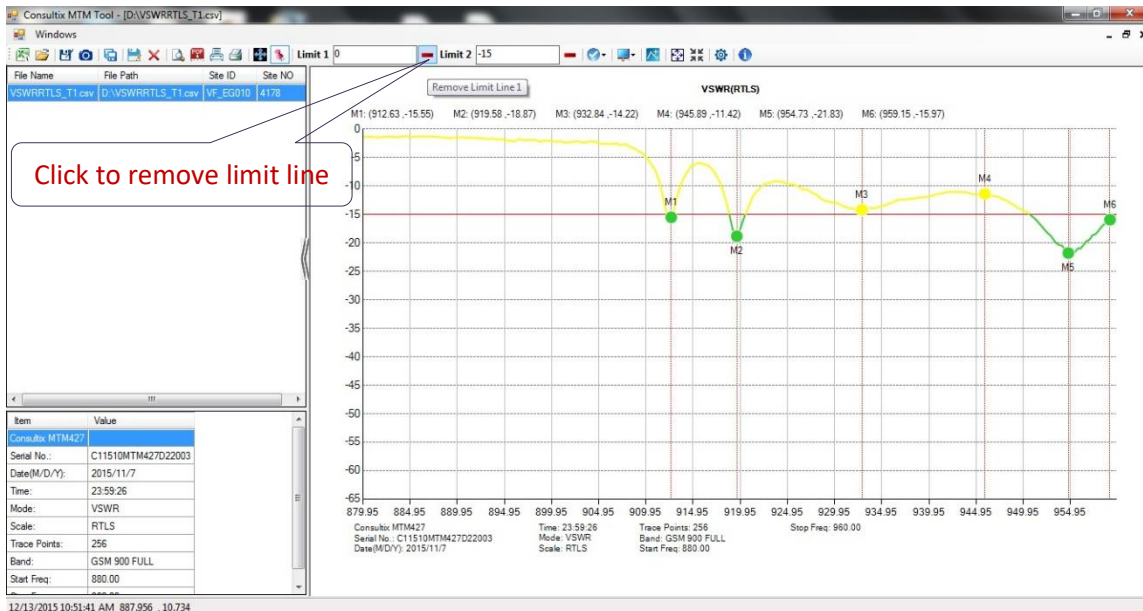

Figure 8, Removing Limit Lines
2. Remove limit lines: from **Function Toolbar**, click "**Remove Limit Line 1**" and/or "**Remove Limit Line 2**" as shown in figure 8